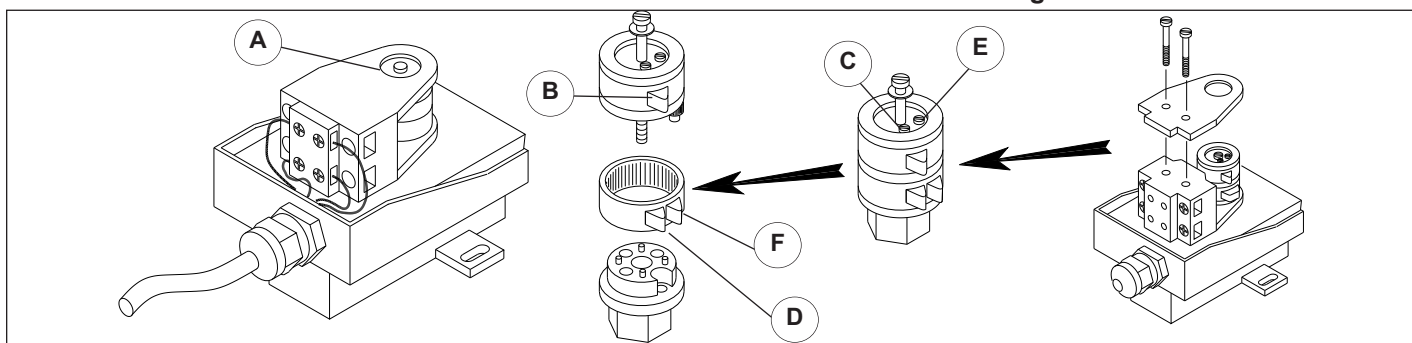

Figure 28.1
3. Loosen the center locking screw (A) and turn the open limit switch cam (B) locking screw labeled #2 (C) until you hear the contact click, input X0 LED will also be off, **Figure 28.1**
7. Manually lower the door to the closed position. Adjust the closed limit switch (D) by loosening the center locking screw and turn the cam locking screw labeled #1 (E) until you hear the contact click, input X1 LED will also be off, **Figure 28.1**. Tighten the center locking screw.
8. For a Right Hand drive door turn the #1 close/photoeye limit switch screw counter-clockwise to raise the door and clockwise to lower the door. The first lobe #3 (F) will be the photoeye shut-off, input X1 LED will pulse off then on as it goes by and will stay off when it hits the second lobe for the closed position.
11. With the door in the closed position, adjust the closed limit switch, by loosening the center locking screw and turn the cam locking screw labeled #1 until you hear the contact click, input X1 LED will also be off, **Figure 28.1**. Tighten the center locking screw.
16. Loosen the center locking screw and turn the open limit switch cam locking screw labeled #2 until you hear the contact click, input X0 LED will also be off, **Figure 28.1**.